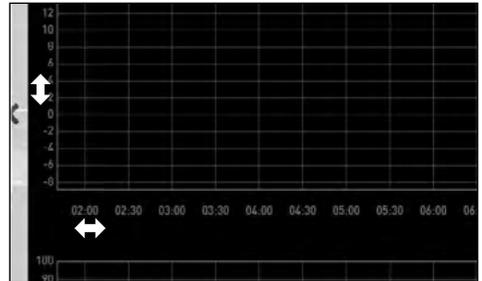

Fig. 11
- ▶ To only scale the time axis (x axis) or the value axis (y axis), move the cursor to the label of the respective axis. The cursor will turn into a double arrow. Scroll with the mouse wheel to scale the respective axis (Fig. 11).